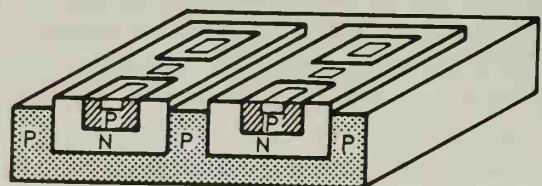

Fig. 19-13. Emitters are diffused into the P type regions.
9. The wafer is again masked, exposed and etched to open windows in the P type regions. Now a phosphorus diffusant is used to produce N type regions for transistor emitters, and regions for diodes and capacitors. Small windows are also etched through to the N-layer for electrical connections. The total wafer is again given the oxide coating. See Fig. 19-13.